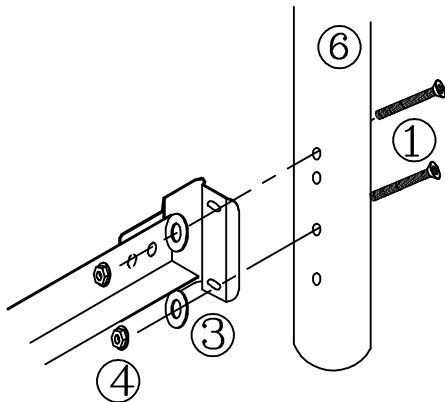

FIGURE 2
- Place 2 screws (1) through holes located in leg (6). (See Figure 2)
- Place a flat washer (3) first over the screw (1) then a hex nut (4) on each screw (1). Hand-tighten, DO NOT TIGHTEN screws all the way.
- Tighten all screws securely using the Allen wrench (5).